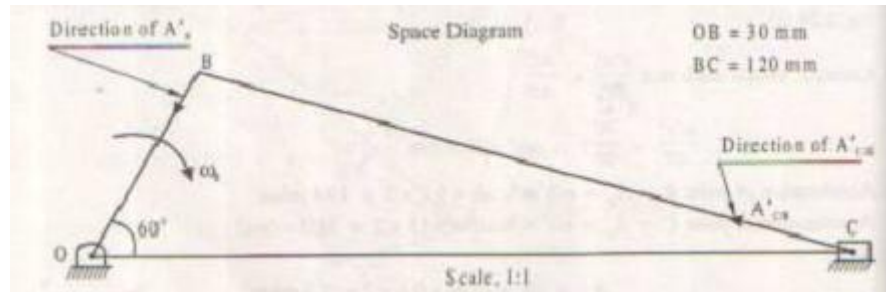

Fig. 2.5
5. In a slider crank mechanism, the crank $OB = 30\text{mm}$ and the connecting rod $BC = 120\text{mm}$. the crank rotates at uniform speed of 300rpm clockwise. Find the crank position shown in the figure in which the crank is turned 60° degree, find a) velocity of piston C and angular velocity of connecting rod BC b) acceleration of piston C and angular acceleration of connecting rod BC as shown in fig 2.5